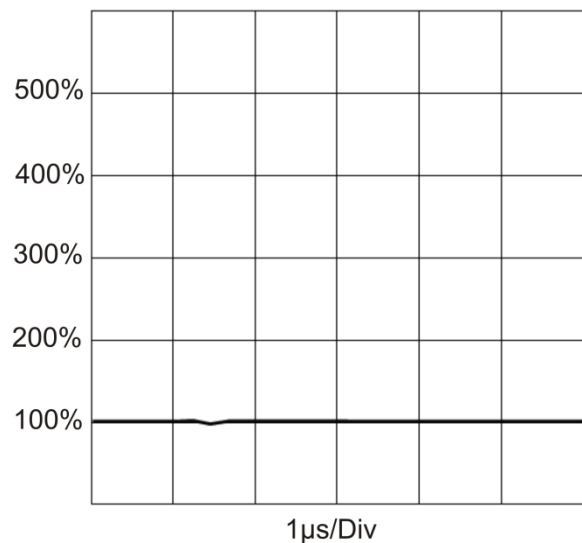

Fig. 6
Fig. 6 shows the response of the DPD (P) at the same conditions. The diode current stays constant.